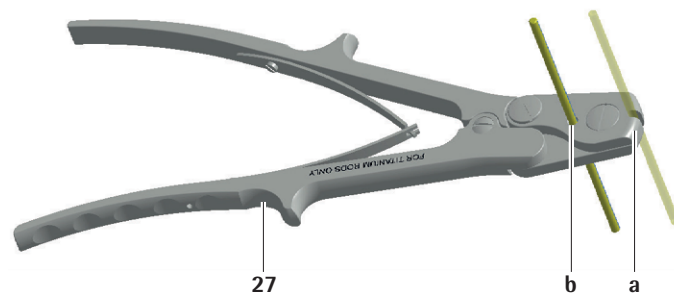

Fig. 22
- ▶ Cut rod with scissors **a** or center hole **b** of the rod cutter **27**, see Fig. 22.